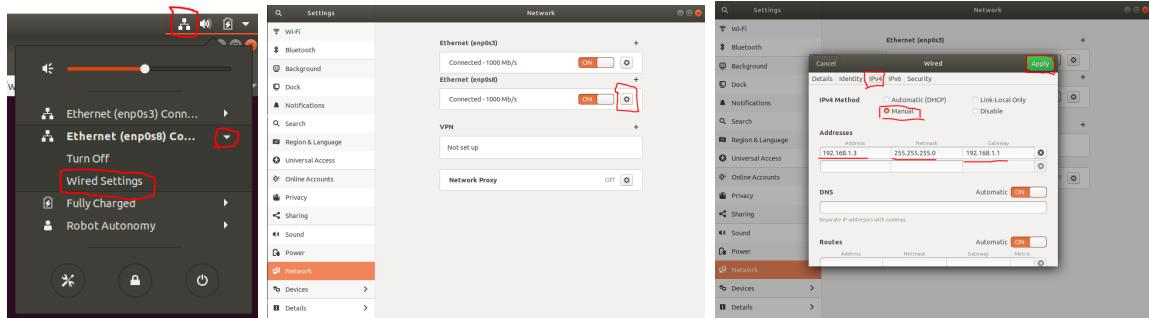

Figure 6: Steps (from left to right) of Setting the IP of the Local Machine in the Ethernet Connection to the Control PC
4. Set the IP of your newly connected Ethernet Interface to have a static IPv4 address of 192.168.1.3. See Figure 6 for details.